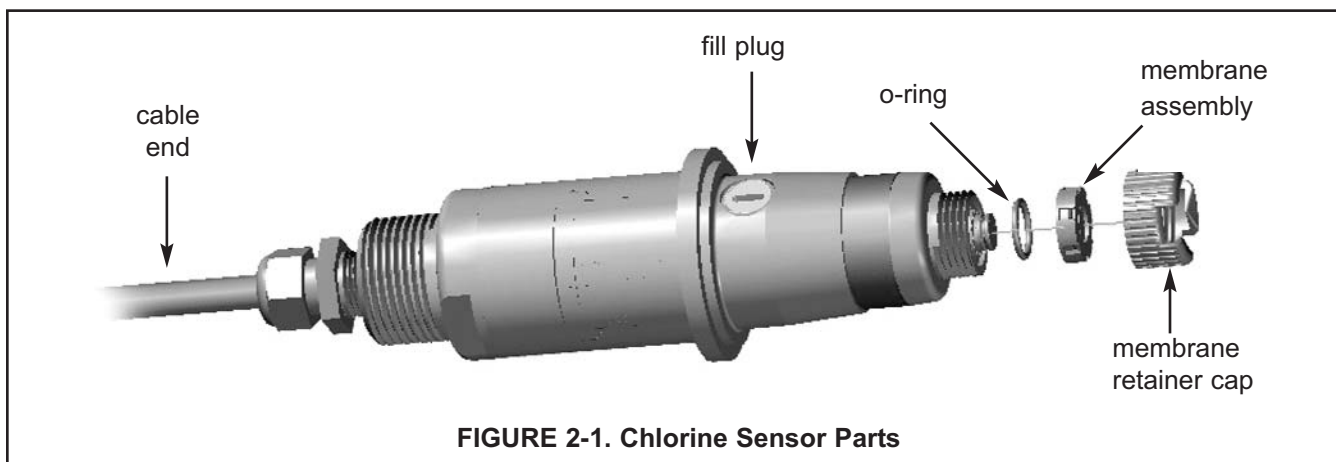

FIGURE 2-1. Chlorine Sensor Parts
- b. Holding the membrane end pointing up (cable connector end pointing down), unscrew the retainer cap and remove the shipping membrane. See Figure 2.1. It is not necessary to remove the O-ring. **Save the shipping membrane.** It should be reinstalled on the sensor when the sensor is not in use.